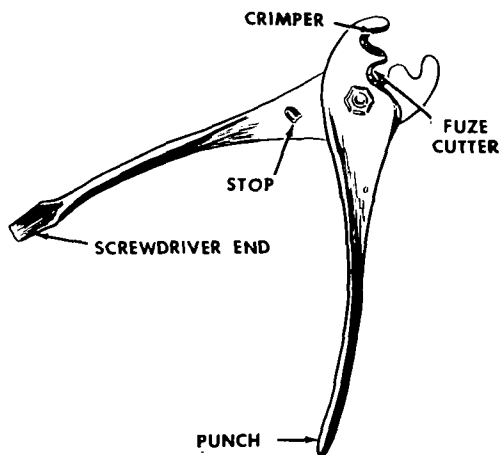

Figure 105. M2 cap crimper.
f. Cap Crimpers. The M2 cap crimper (fig. 105) is designed to squeeze the shell of the non-